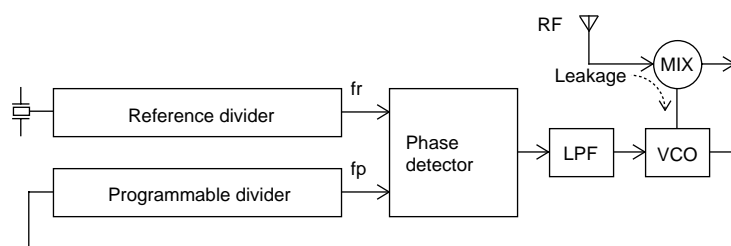
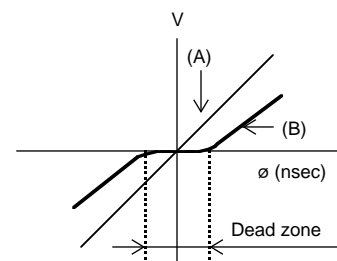

Figure 1
Figure 2
The phase comparator compares f_p with the reference frequency (f_r) as shown in figure 1. This circuit outputs a voltage V (A) that is proportional to the phase difference ϕ as shown in figure 2. However, due to internal delays and other factors, the actual IC is unable to compare small phase differences, and thus a dead zone (B) appears in the output. To achieve a high signal-to-noise ratio in the end product, the dead zone should be as small as possible.